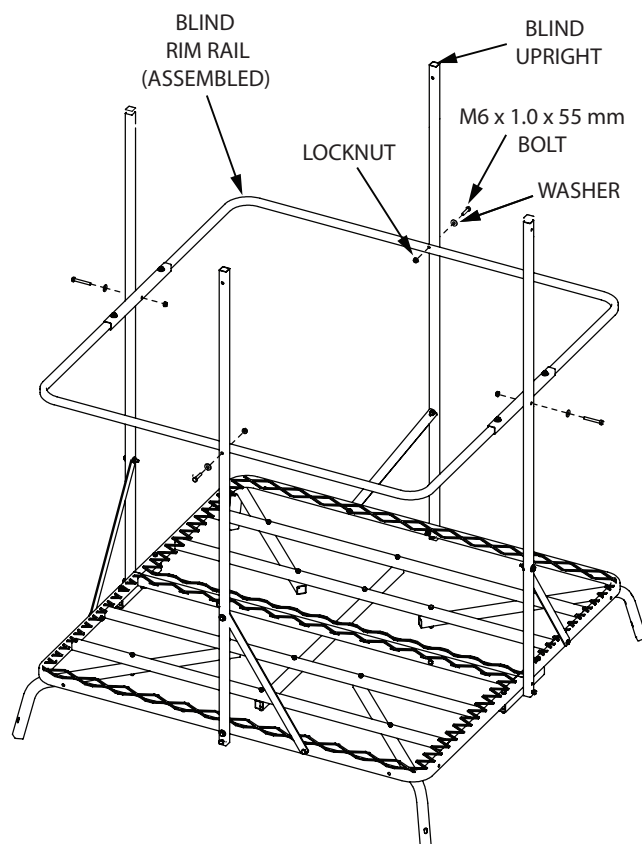

FIGURE 6
b. Assemble this square to the inside the four blind uprights by attaching (2) rail spanner tubes to the two blind uprights that are attached to the outside platform joiner using (2) provided M6 x 1.0 x 55 mm bolts, locknuts and washers. **SEE FIGURE 6**
c. Attach the two blind rim rails to the two blind uprights that are attached to the long side of both platforms using (2) provided M6 x 1.0 x 55 mm bolts, locknuts and washers. **SEE FIGURE 6**